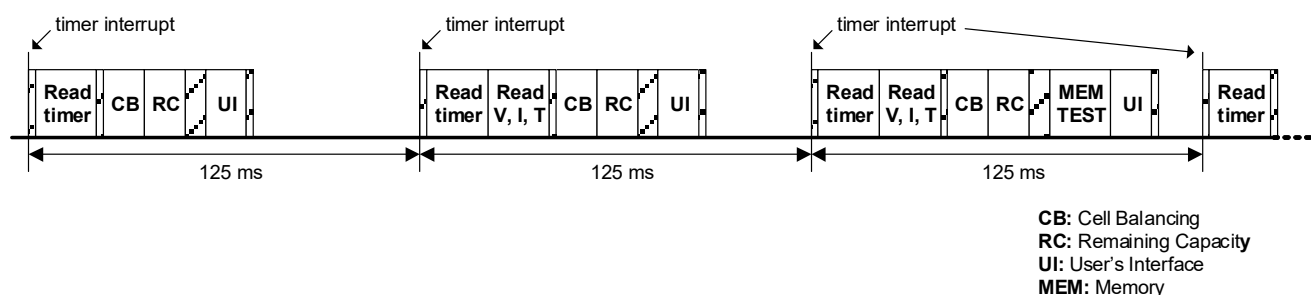

Figure 6. Timeline of the Main Loop in Charge/Discharge and Temporary Failure Mode
- Figure 6 shows the timeline of the main loop.